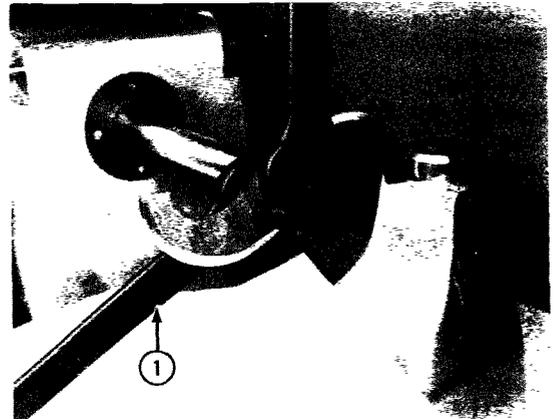

Fig. 3-6
- C. Place a 1-7/16 inch wrench on the inside knife retaining bushing and push it forward until it rests on the base of the machine (1, Fig. 3-6).